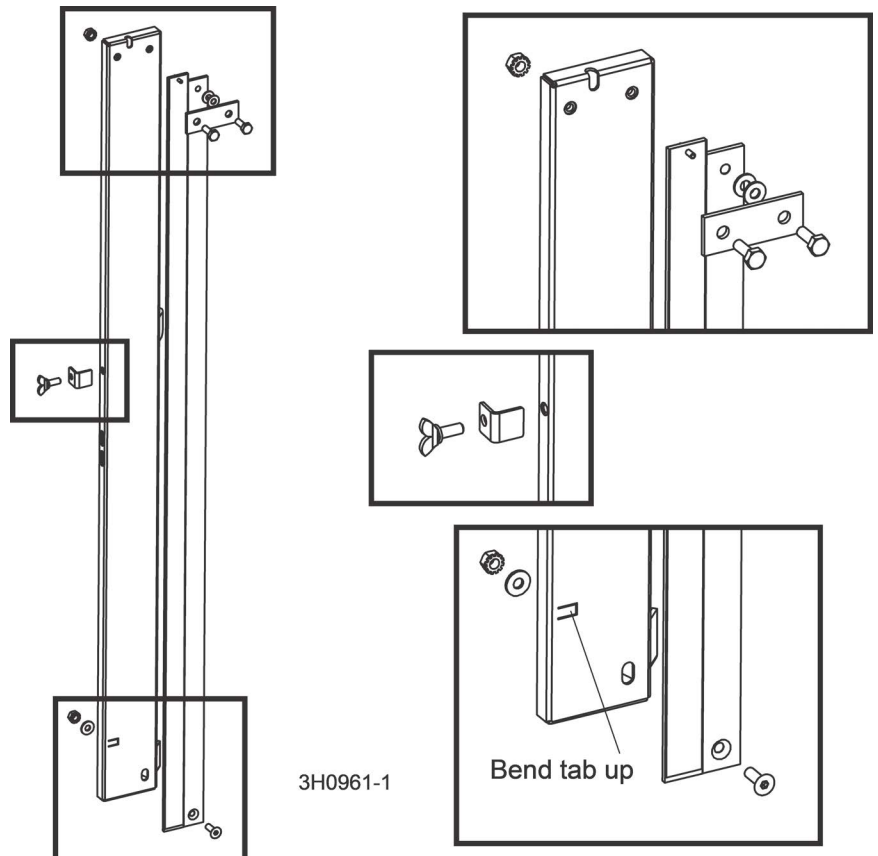

FIG. 1-5
11. Use the existing hardware to secure the scales to the provided scale mount bracket. See **Figure 1-5**
5. Leave the black jumper wire connected to TRM4. **See Fig. 1-5.**